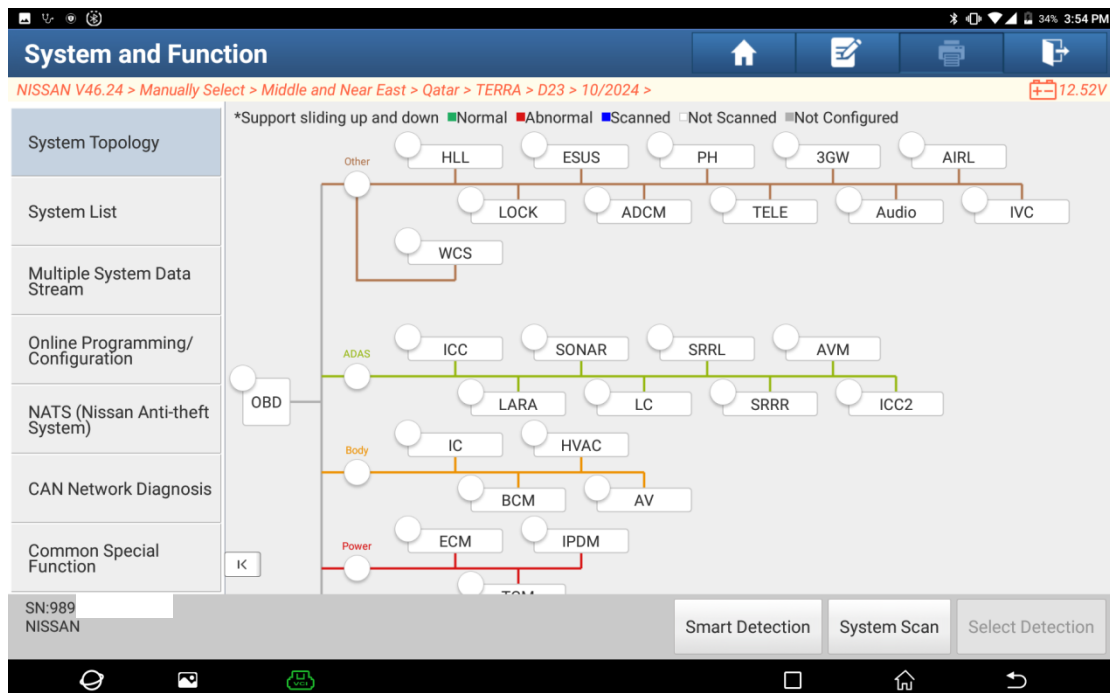

Figure 5
- Click [Manually Select], and choose [Middle and Near East] > [Qatar] > [TERRA] > [D23] > [10/2024] to enter the vehicle model system interface (Figure 5).